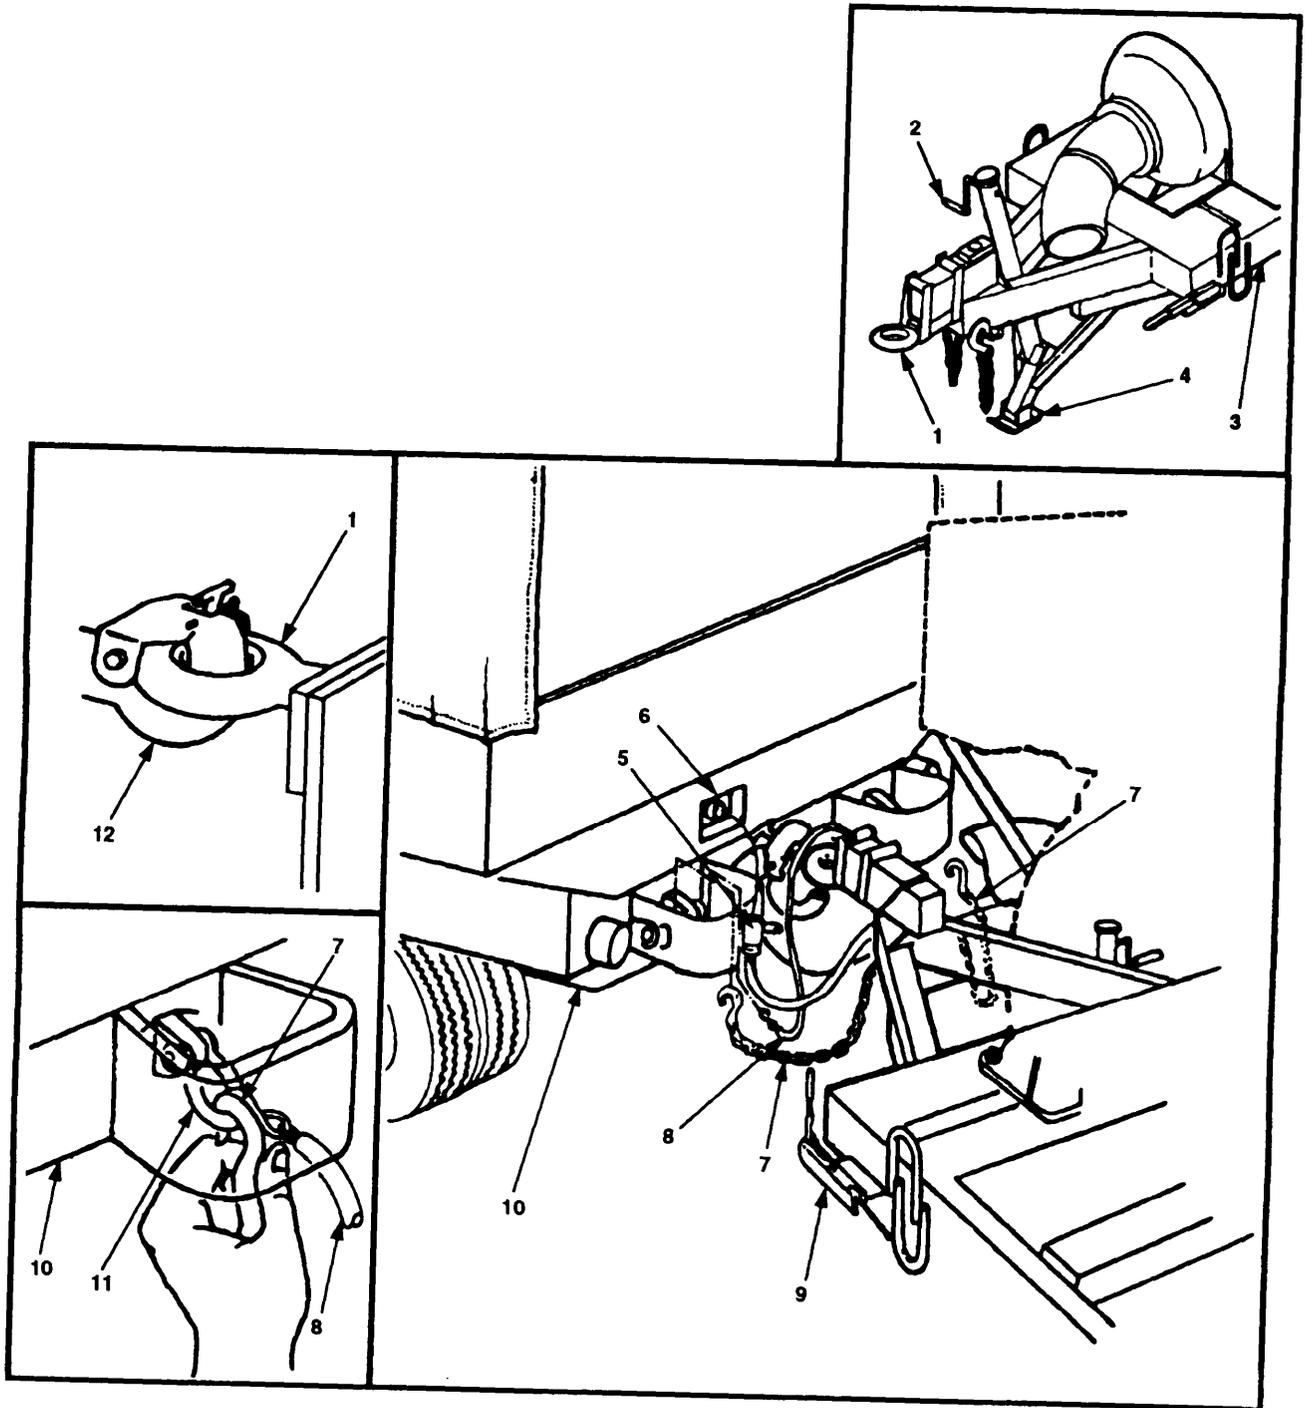

Figure 2-38. Connecting Pumping Assembly, With Front Tripod Jack, to Towing Vehicle . (Model 609-A Shown)
- (1) Use turncrank (10) to raise or lower trailer tongue (5) until lunette (1) can be lowered onto pintle hook (16). Slowly back the towing vehicle (14) until pintle hook (16) is under lunette (1).
- (2) Using turncrank (10), lower trailer tongue (5) until lunette (1) engages pintle hook (16). Close pintle hook (16).
- (3) Move both handbrake levers (12) to unlocked position.
- (4) Remove pin (4) from mounting sleeve (6) on trailer tongue (5) and upper mounting post (7) on jack (3). Remove jack (3).
- (5) Position jack (3) horizontally along trailer tongue (5) and insert lower mounting post (8) into mounting sleeve (6). Align holes in mounting sleeve (6) and lower mounting post (8). Insert pin (4).
- f. If pumping assembly is equipped with a front tripod jack, refer to Figure 2-38 and connect it to a towing vehicle as follows:
- (1) Check both handbrake levers (9) to make sure that wheels are locked.
- (2) Position towing vehicle (10) so that pintle hook (12) is slightly forward of trailer lunette (1). Open pintle hook (12).
- (3) Use turncrank (2) to raise or lower tripod (4) until lunette (1) can be lowered onto pintle hook (12). Slowly back the towing vehicle (10) until pintle hook (12) is under lunette (1).
- (4) Using turncrank (2), lower tripod (4) until lunette (1) engages pintle hook (12). Close pintle hook (12).
- (5) Using turncrank (2), fully retract tripod (4).
- (6) Move both handbrake levers (9) to unlocked position.
- g. Join intervehicular cable (5) to mating receptacle (6) on towing vehicle (10).